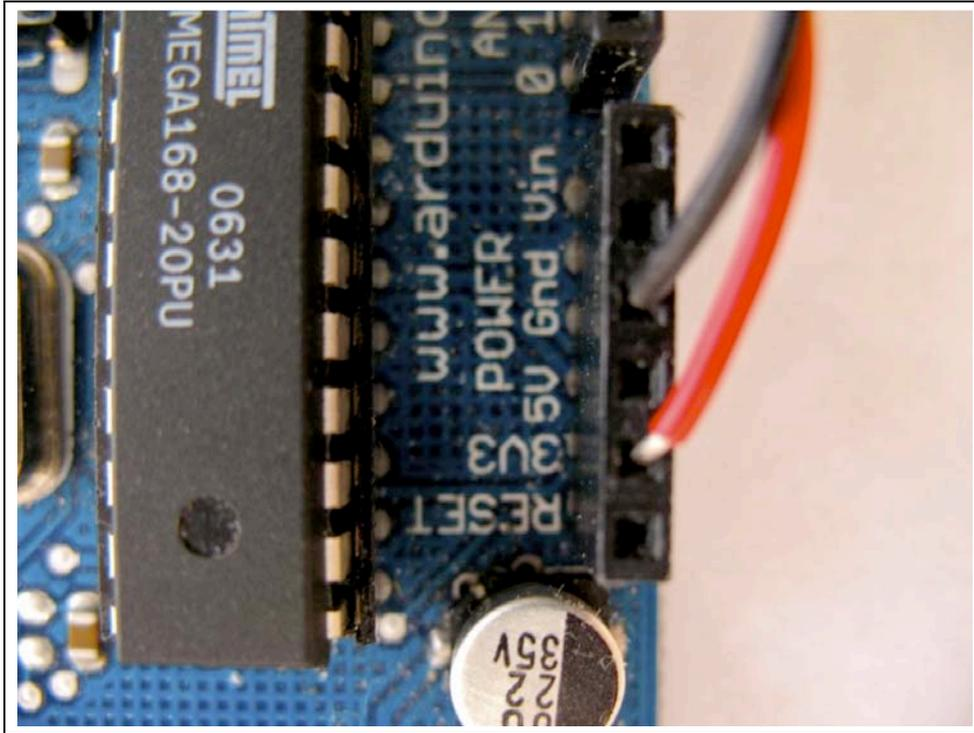

Figure 2. Power connections on Arduino
1. Hook up a red wire from the 3.3V output of the Arduino to one of the power rails on the breadboard (see Figure 2)